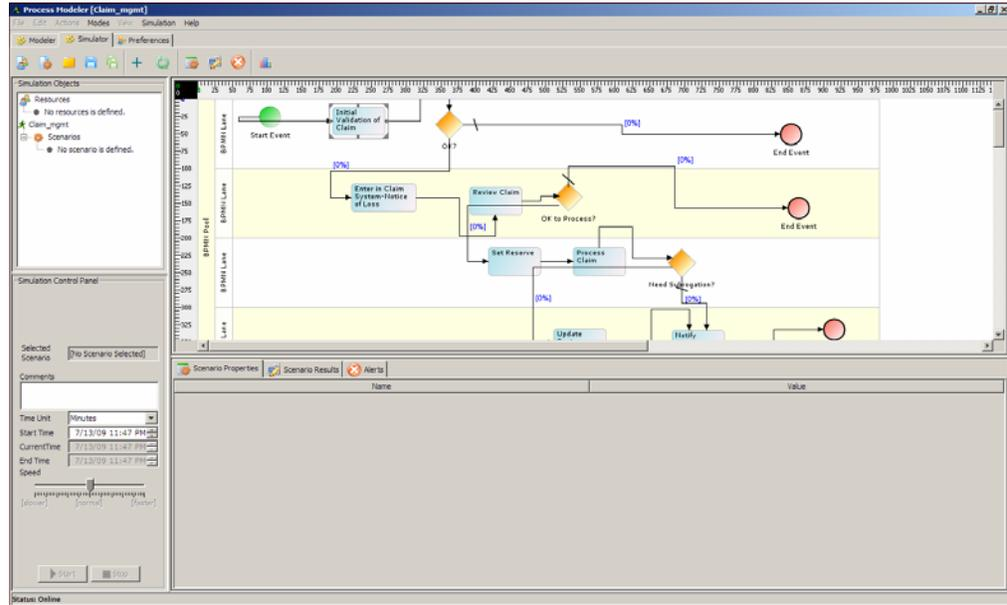

Figure 10.3: Process Simulator
5. In the Process Modeler applet click the **Simulator** tab. The process Simulation applet is displayed (see Figure 10.3).